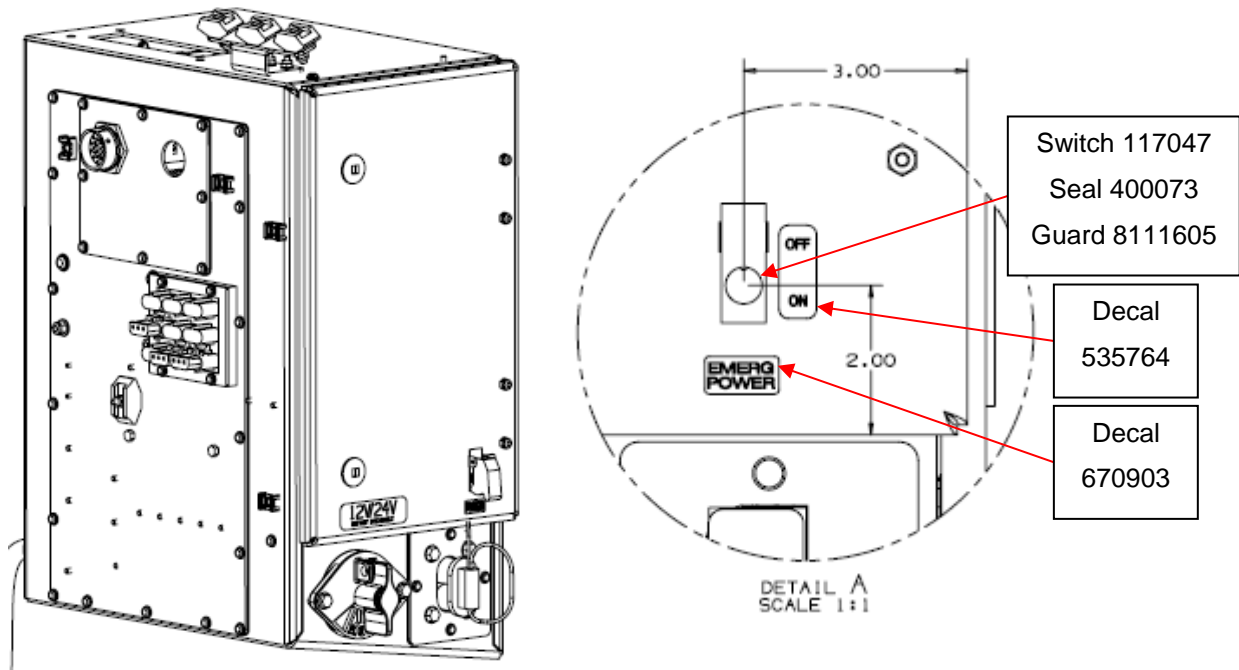

Figure 1: Emergency Power Switch Location
- 3) Drill a hole 0.5” in diameter into the front door of the fuse box for the new emergency power switch. Exact location shown in Figure 1 below.